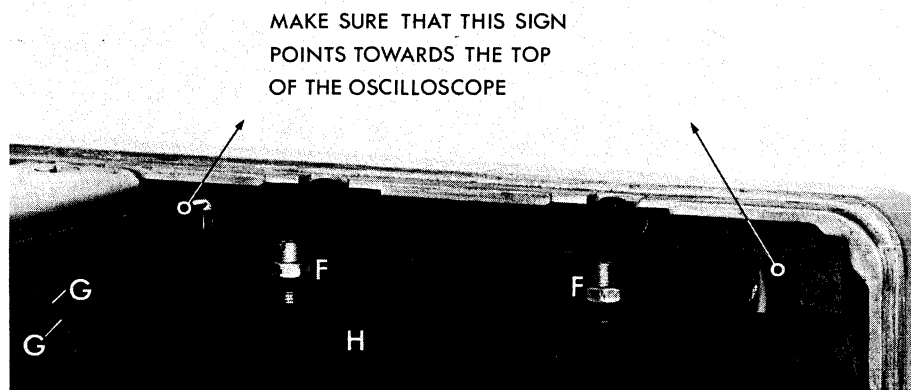

Fig. 3.18. Dismantling
**IMPORTANT:** Take care that the sign on the lamp holder points towards the top of the oscilloscope in order to avoid short circuits (Fig. 3.18.).
- Loosen the 2 adjusting screws F (Fig. 3.18.)
- Unplug both wires G (Fig. 3.18.)
- Adjust screws F (Fig. 3.18.) in such a way that the tube face fits optimally in the mask